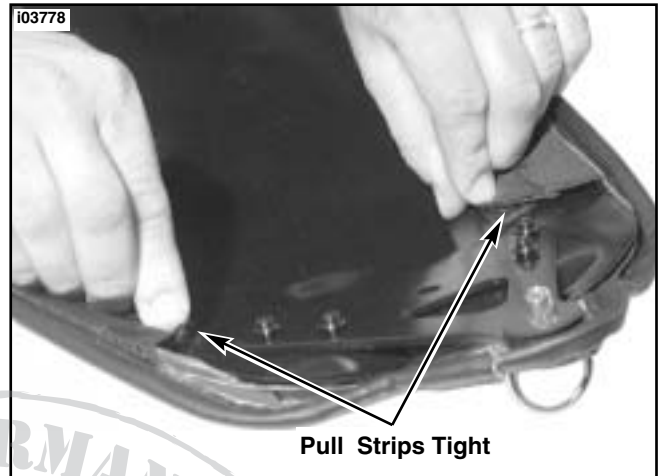

Figure 5. Adhere Sides Of Velcro to Inside Of Cover
15. See Figure 5. Make sure edges of bra are even with airbox cover edges and bra is centered on airbox cover. Wrap rear (longer) Velcro® flaps around edges of cover. While pulling tight on right and left flaps, adhere adhesive side of Velcro® to the surface of the airbox cover internal frame. Be careful when pulling tight not to pull too hard in the forward direction, as the bra mounting hole could become elongated.